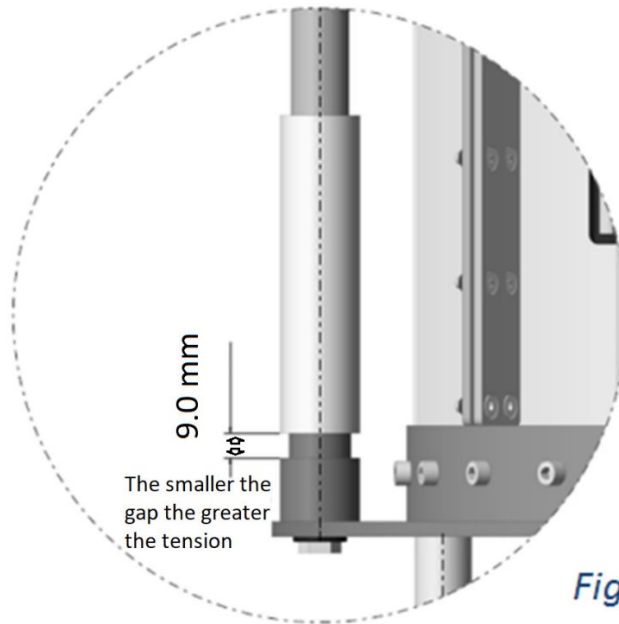

Figure 5
(See Fig5)**
- 4) Reverse the process & re-apply tension to the mesh measuring the gap at the base of the tensioning pillars to 9.0 mm as shown in fig 5.